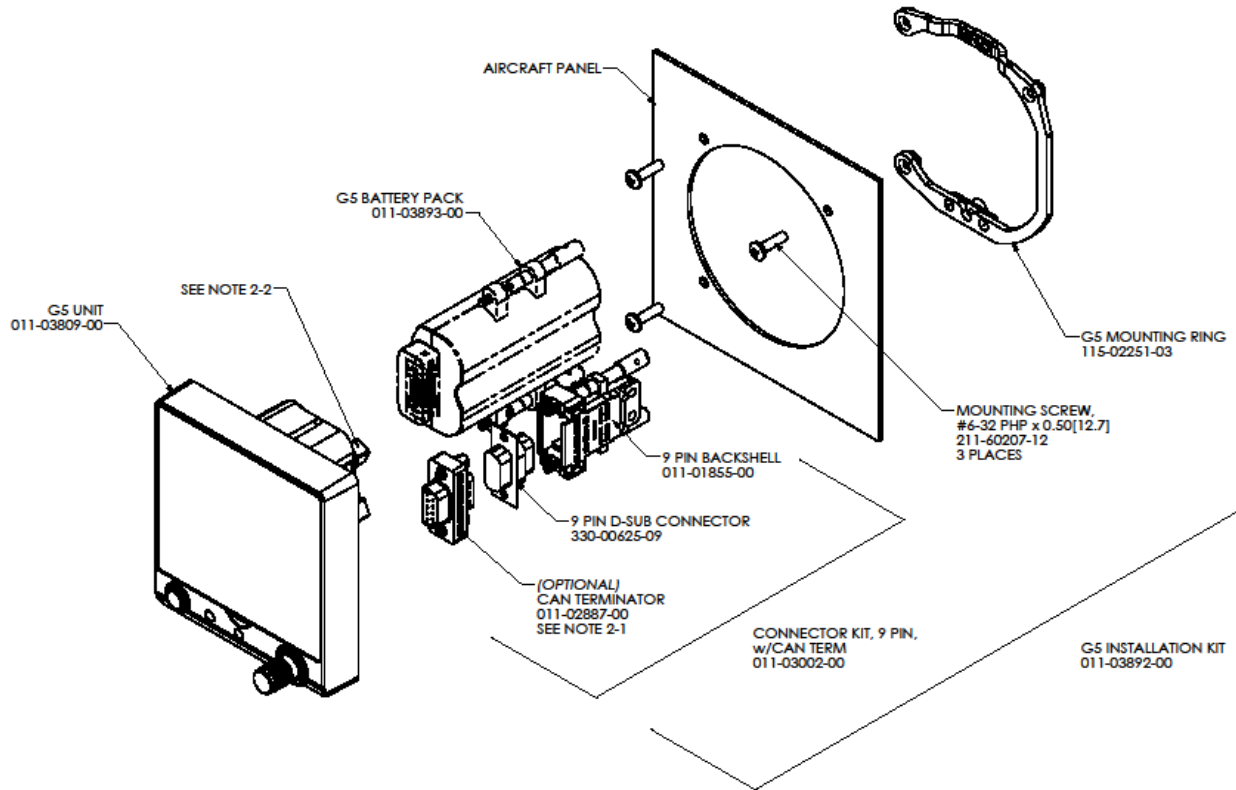

Figure 5-3 G5 Exploded View
2. Use a screwdriver to loosen the battery jackscrews on the back of the unit (reference Figure 5-3.)